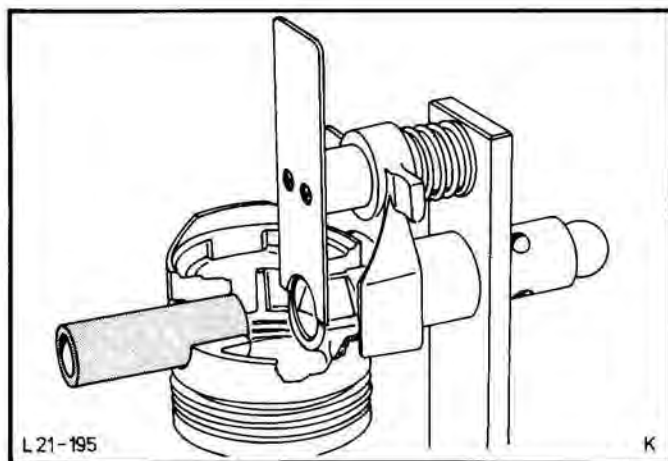

Fig.124. Insert piston pin.
6. Slide piston pin through up to the inside edge of the other piston pin bore, Fig.124.